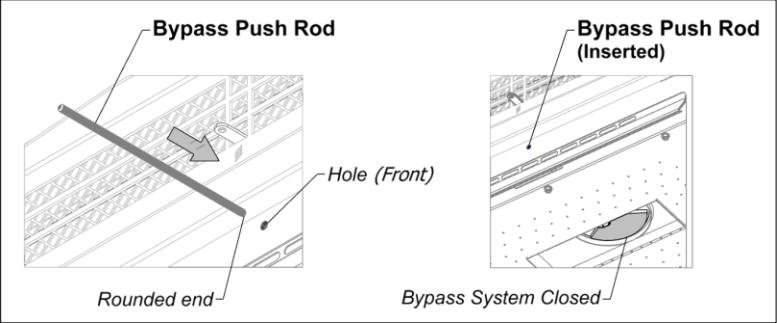

Figure 7-2: Bypass System Testing
- i) Reinstall the Baffle and the Bypass Push Rod. Make sure that the Bypass System is in the proper position (counterweight facing downward) prior to fastening the Baffle. Test the Bypass System by pressing forward the Bypass Push Rod and observing whether the baffle cap opening fully closes. Refer to Figures 7-2 and 7-3.